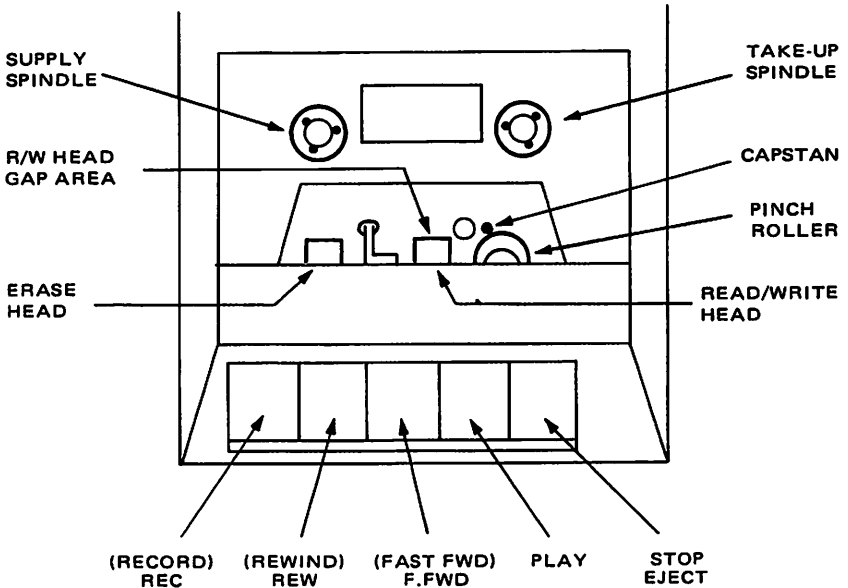

Figure 3. MECHANICAL COMPONENTS LOCATION
- STEP 2.** Press "PLAY" and check the movement of the tape heads toward the spindles and the engaging of the capstan by the pinch roller (see Figure 3). The take-up spindle should be moving smoothly in a counterclockwise direction.